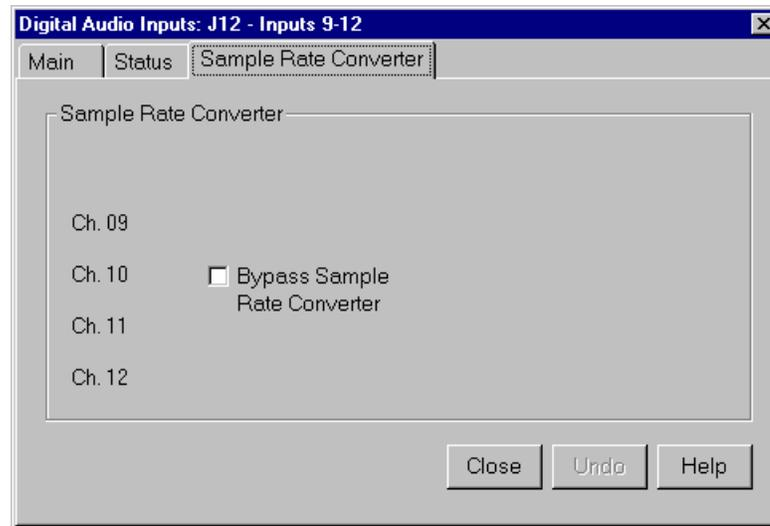

Figure 42. Digital Audio Input dialog box, Sample Rate Converter tab
1. In the Digital Audio Input dialog box, click the Sample Rate Converter tab (Figure 42). By default, the sample rate converter is enabled. The sample rate converter affects all four channel inputs.